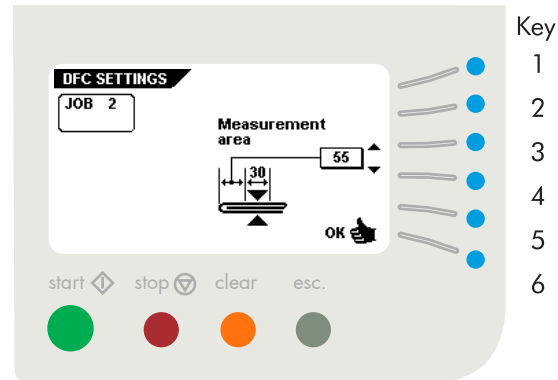

Fig. 49
After pressing key 5 in the "DFC settings" menu, the display shows the screen as shown in fig. 49. The following choices are available:
- set the position of the detection area earlier (key 3).
- set the position of the detection area later (key 4).
- confirm the settings by pressing "OK" (key 6) which will get you back to the double document detection menu.